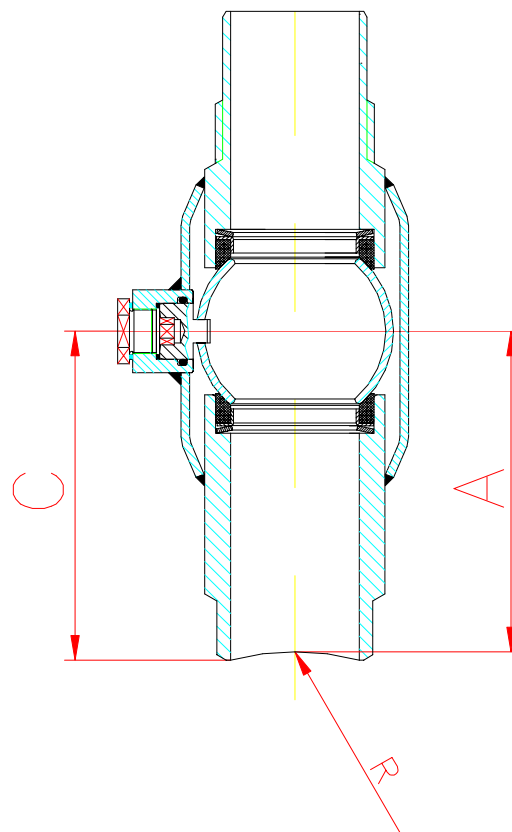

Figure 1
- Prepare the weld end of the hot tapping valve to match the radius (“R”) of the main pipe and taper the edges as required for the best welding result (see figure 1).